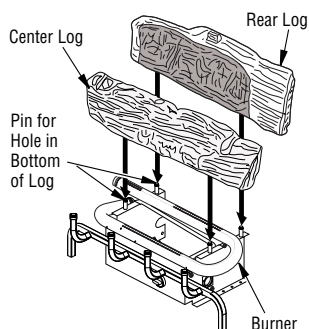

Figure 18 - Installing Rear and Middle Logs
1. Place rear log onto base. Holes in bottom of log must seat over pins on base as shown in **Figure 18**.
2. Place center log onto base. Holes in bottom of log must seat over pins on base as shown in **Figure 18**.